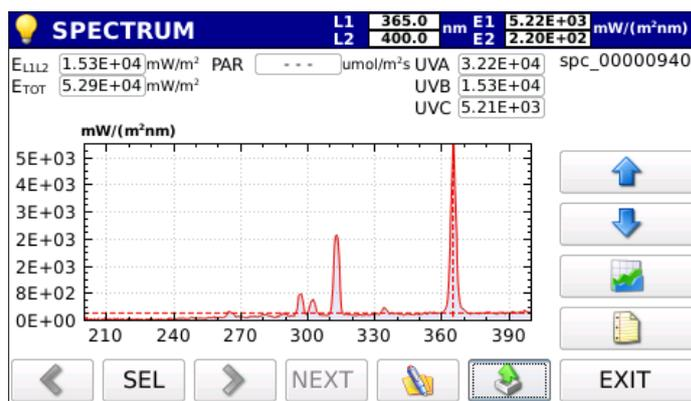

Figure 1.4
**UVA Irradiance** ( $\text{W}/\text{m}^2$ ), **UVB Irradiance** ( $\text{W}/\text{m}^2$ ) and **UVC Irradiance** ( $\text{W}/\text{m}^2$ ) (figure 1.4).